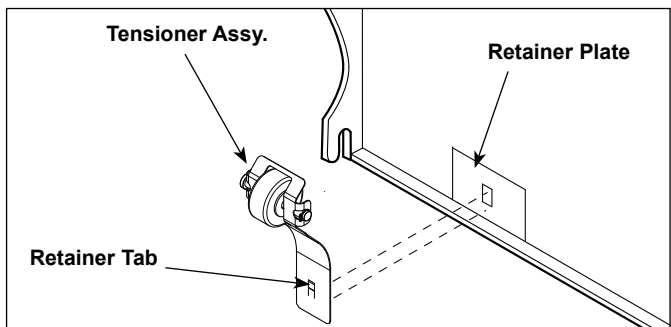

Figure 11. Replacing Roller Tensioner Assy.
**NOTE: As of March 2017, the Interlock Switch was removed from use. If your toaster has the Interlock Switch (Figure 11), you will need to place the Heat Shield onto the toaster in order for the conveyors to turn. If your toaster does not have an Interlock Switch, the conveyors will turn as long as the unit is on.**